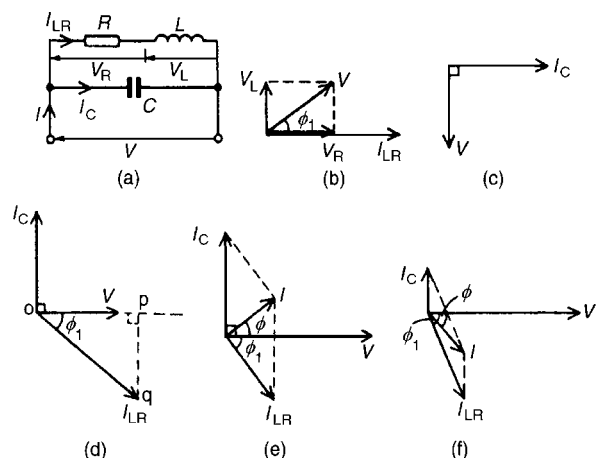

Figure 16.5
In the two branch circuit containing capacitance C in parallel with inductance L and resistance R in series (such as a coil) shown in Fig. 16.5(a), the phasor diagram for the LR branch alone is shown in Fig. 16.5(b) and the phasor diagram for the C branch is shown alone in Fig. 16.5(c). Rotating each and superimposing on one another gives the complete phasor diagram shown in Fig. 16.5(d)
The current I_{LR} of Fig. 16.5(d) may be resolved into horizontal and vertical components. The horizontal component, shown as op is $I_{LR} \cos \phi_1$ and the vertical
- $I_C > I_{LR} \sin \phi_1$ (giving a supply current I leading V by angle ϕ —as shown in Fig. 16.5(e))
- $I_{LR} \sin \phi > I_C$ (giving I lagging V by angle ϕ —as shown in Fig. 16.5(f))
There are two methods of finding the phasor sum of currents I_{LR} and I_C in Fig. 16.5(e) and (f). These are: (i) by a scaled phasor diagram, or (ii) by resolving each current into their ‘in-phase’ (i.e. horizontal) and ‘quadrature’ (i.e. vertical) components, as demonstrated in problems 6 and 7. With reference to the phasor diagrams of Fig. 16.5:
Resonance occurs in the two branch network containing capacitance C in parallel with inductance L and resistance R in series (see Fig. 16.5(a)) when the quadrature (i.e. vertical) component of current I_{LR} is equal to I_C . At this condition the supply current I is in-phase with the supply voltage V .